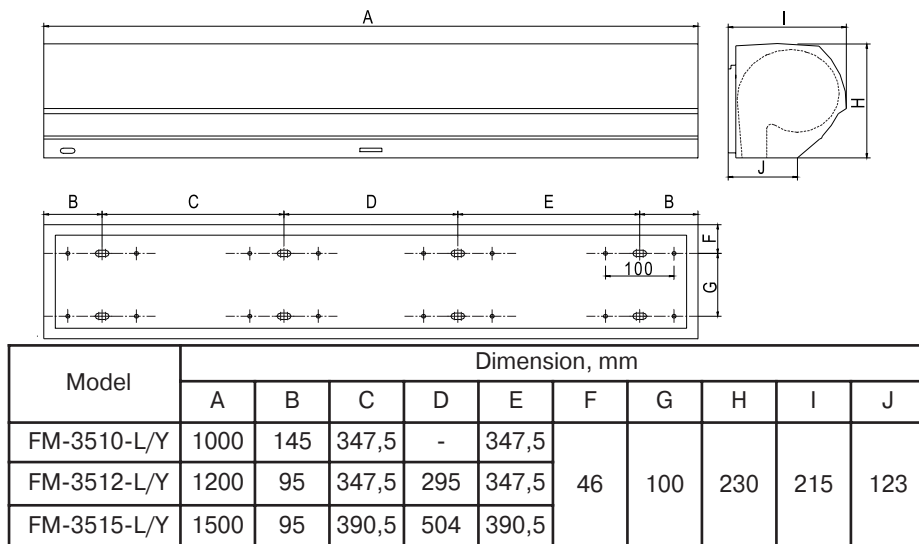

Figure 4. Identification and installation dimensions
7.1.2 Identification and installation dimensions (Figure 4).